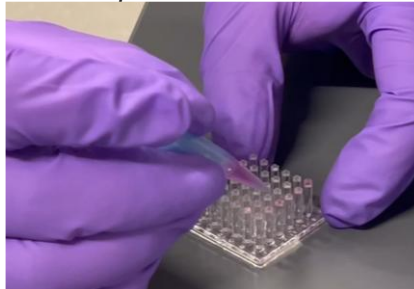

Figure 4. Loading the cell-Matrigel-alginate mixture on the pillar plate using a 1 mL pipette tip.
15. Gently tap the 1 mL pipette tip with the cell-Matrigel-alginate mixture in the center of the pillar to load the cell-Matrigel-alginate mixture while blocking the large open area of the tip using the index finger (**Fig. 4**).